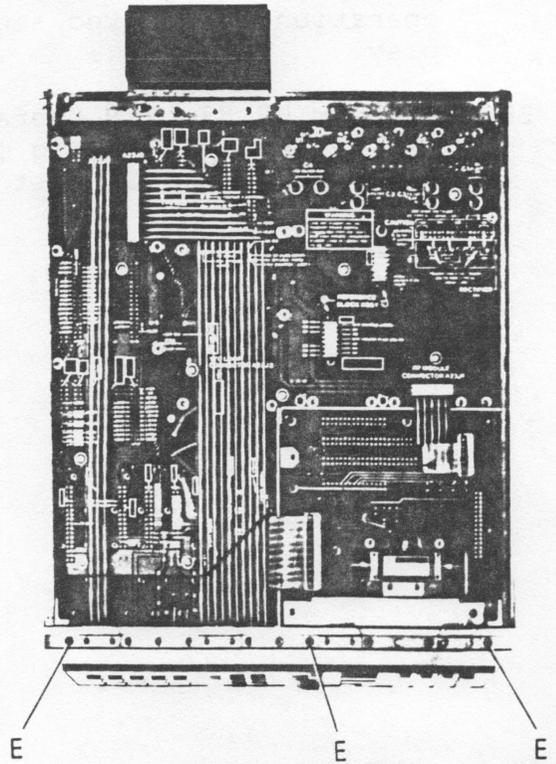
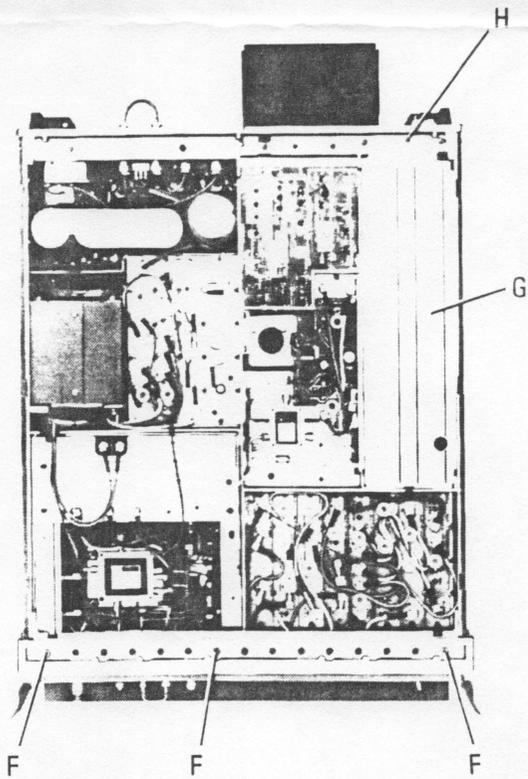
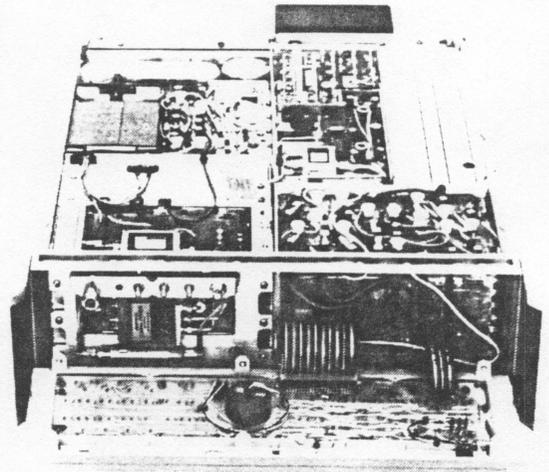

Figure 2. HP 85660A/B Top View
Figure 3. HP 85660A/B Bottom View
Figure 4. HP 85660A/B Front View (Partially Disassembled)
5. Remove three screws holding A5 Front Panel Assembly to RF Section Front Frame (E), Figure 2.
7. Remove remaining three screws holding A5 Front Panel to Front Frame (F), Figure 3, and remove A5 Front Panel from RF Section to provide access to A6A2 RF Attenuator semi-rigid cable.
15. Replace A5 Front Panel Assembly in RF Section Front Frame using six screws (E), Figure 2 and (F), Figure 3. Make sure that ribbon cables A23W5 and A23W7 are properly connected to A5A1 Keyboard Assembly sockets, as shown in Figure 4.
16. Locate Controller Cover (G), Figure 3. Remove pozi-drive screw (H), Figure 3 and Controller Cover.
21. Replace Controller Cover using pozi-drive screw (G) and (H), Figure 3.